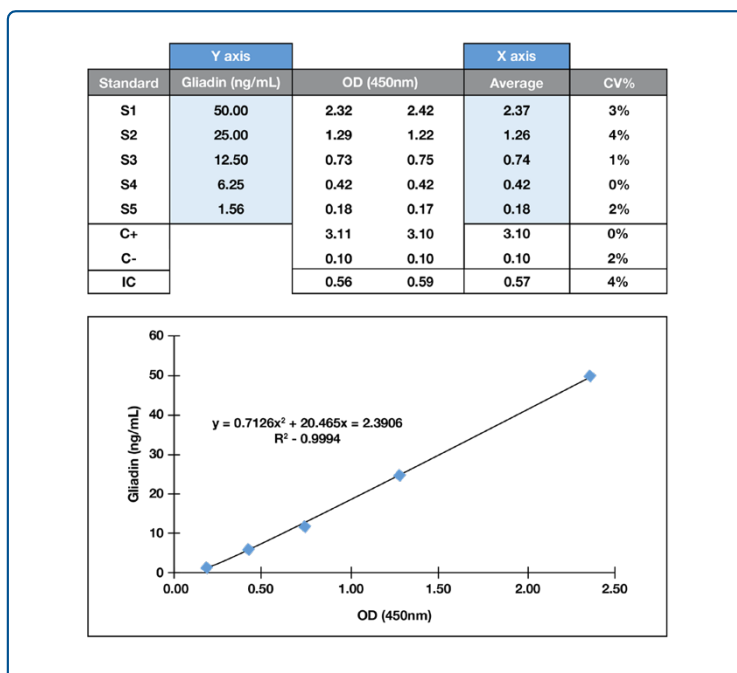

Figure 4. Example of the Standard Curve
12.2. Prepare a standard curve (see Figure 4) by plotting gliadin concentrations of each GlutenTox standard (y-axis) versus the respective absorbance values (x-axis) obtained from the calibration standards using an appropriate software (for example Excel). Please contact Hygiena Diagnóstica España to obtain the Excel template.
12.3. Calculate the equation that defines the standard curve by second-order polynomial regression using a suitable software (for instance Excel). An example is shown in Figure 4.